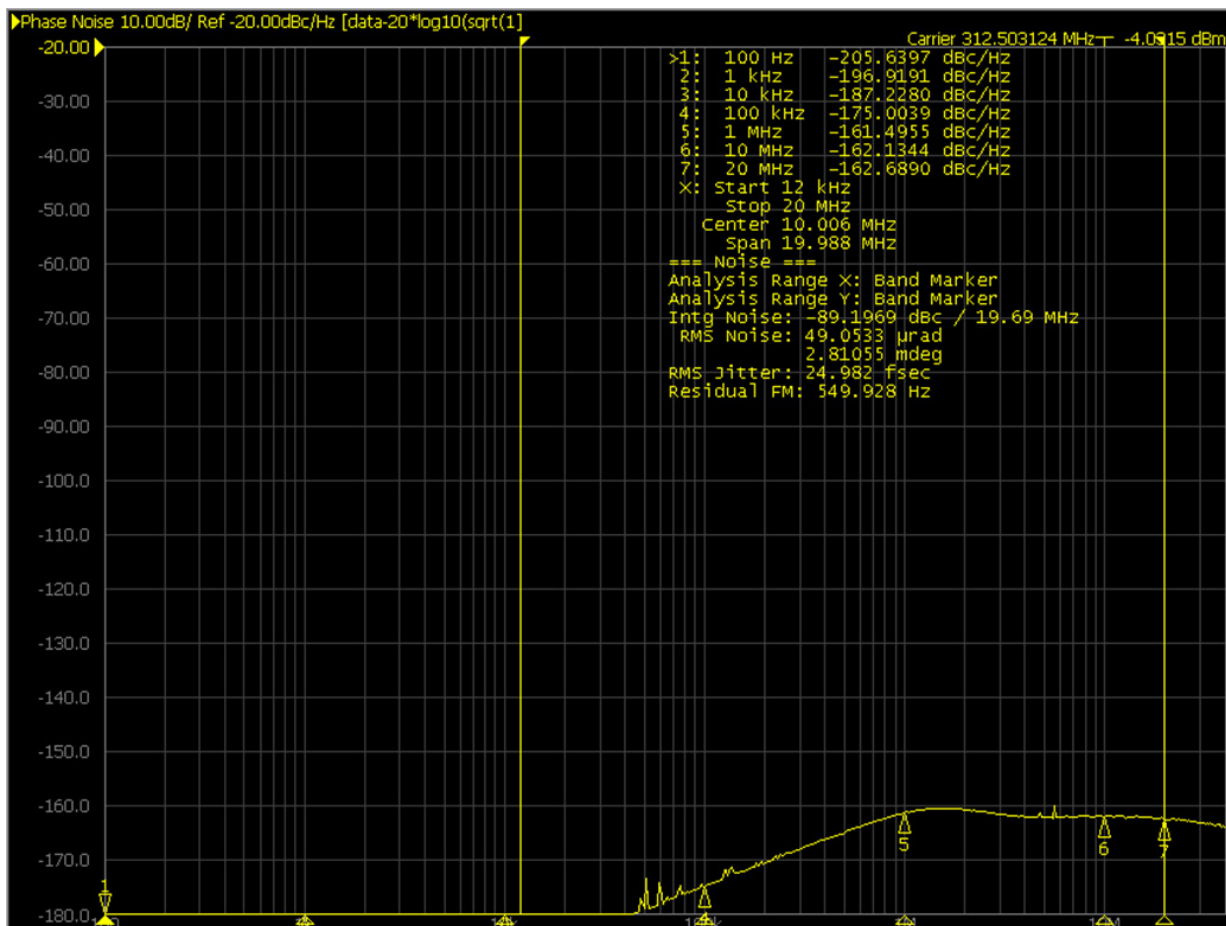

Figure 3. FC3 Jitter Post-processed at 312.5MHz (12kHz to 20MHz) HPF 4MHz
- Figure 3. FC3 Jitter Post-processed at 312.5MHz (12kHz to 20MHz) HPF 4MHz4
The Broadcom TH5 312.5MHz input uses a post-processed 4MHz high-pass filter (HPF). FC3 can provide jitter of roughly 25fs when its output is post-processed using a 4MHz HPF (see Figure 3).